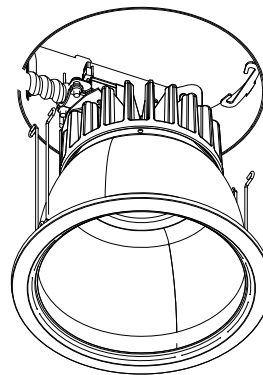

Figure 3
3. Place the LED connector into the casting opening and secure the trim using the two retained screws on the harness assembly. See Figure 3.
4. For trims with torsion springs, compress torsion spring and insert into receiver in trim ring and push up to seat. See Figure 3.